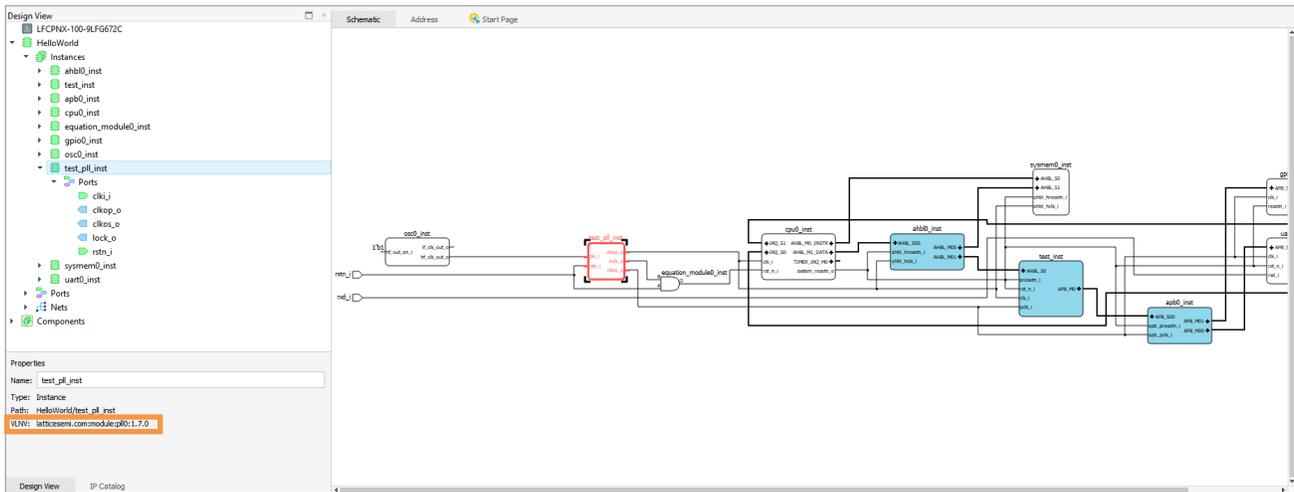

Figure 2.109. Check IP Name in Design View
- Click on an IP instance in **Schematic view**. The **Design View** shows the corresponding information of this IP. Check VLNV for this IP name (Figure 2.109). Go to **IP Catalog**, and click on  before this IP to show the **IP Information**. In the **Device Supported** area, all the devices this IP supports are listed (Figure 2.110). Make sure